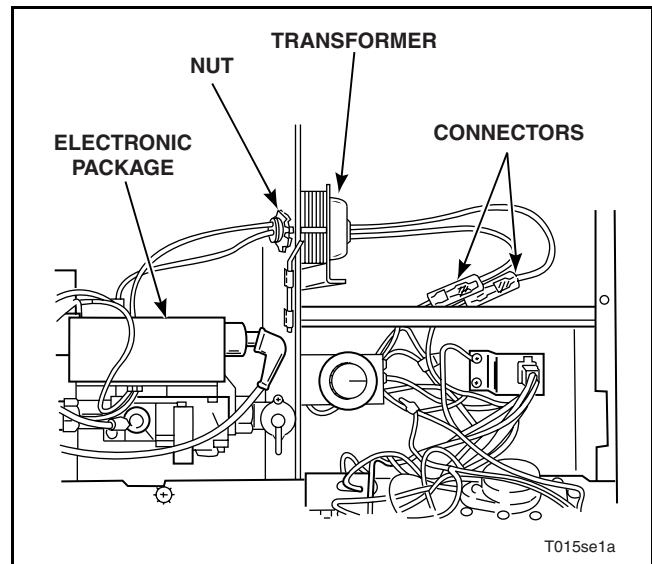

Figure 16
- b. Disconnect transformer wires at electronic package. Refer to *Figure 16*.
- d. Remove nut holding transformer to cabinet. Refer to *Figure 16*.